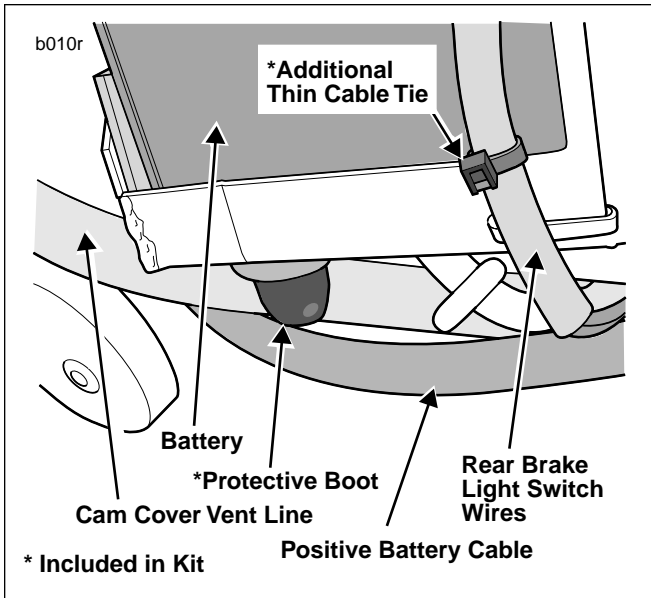

Figure 6. Positive Battery Cable Routing
25. See Figure 6. Inspect positive battery cable and vent lines (transmission vent and cam cover vent) for damage. Replace as required.
28. See Figure 6. Attach cam cover vent (thinner of two vent lines) to frame cross member in original location with **new** (thick) cable tie. Make sure cam cover vent line is routed inboard of stud and nut on bottom of battery tray.
31. See Figure 6. Reroute positive battery cable from starter solenoid post **under** rear brake light switch wires and **under** cam cover vent line then behind and over battery to positive terminal.
32. See Figure 6. Install protective boot, included in kit, over stud and nut on bottom of battery tray on right hand side of motorcycle.
36. See Figure 6. Attach rear brake light switch wires to battery strap with **new** thin cable tie on right hand side of motorcycle. NOTE: HDI (all except Canada, Japan and New Zealand) models do not require this cable tie as the brake light switch wire routing is different.